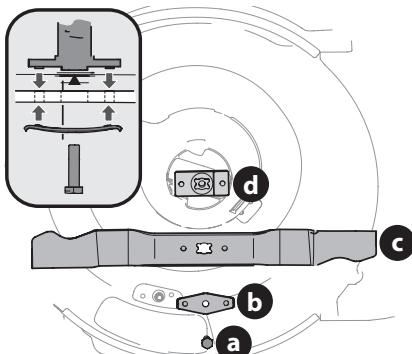

Figure 24
4. Remove bolt (a) and blade bell support (b) which hold the blade and the blade adapter to the engine crankshaft (Figure 24).
5. Remove blade (c) and blade adapter (d) from the crankshaft (Figure 24).
7. Lubricate the engine crankshaft and the inner surface of the blade adapter with light oil. See inset, Figure 24.